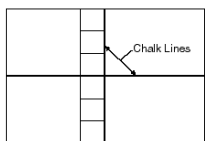

Fig. 3
**Typically, floor tile is laid in sections, starting in the center of the room, marked with chalk lines** (Figure 3). The size of each section should be approximately 135 square feet to correspond with the amount of adhesive in a gallon unit. Typical patterns are straight-line (Figure 3) (3 ft. by 45 ft.) or pyramid-shaped (Figure 4).